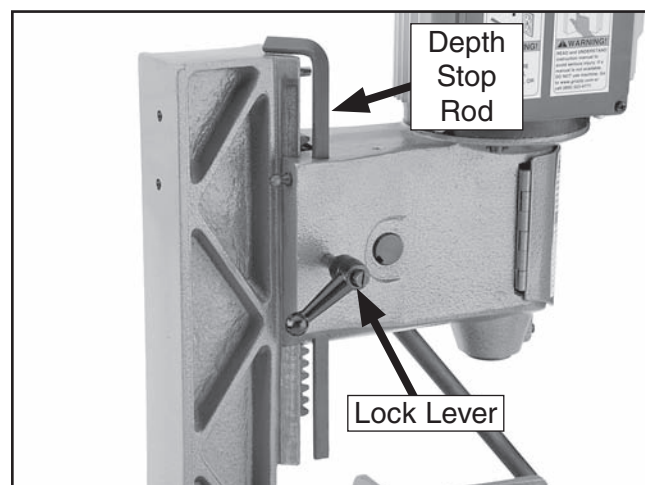

Figure 9. Depth stop rod installed.
2. Loosen the lock lever and insert the depth stop rod into the hole on the headstock, as shown in **Figure 9**.